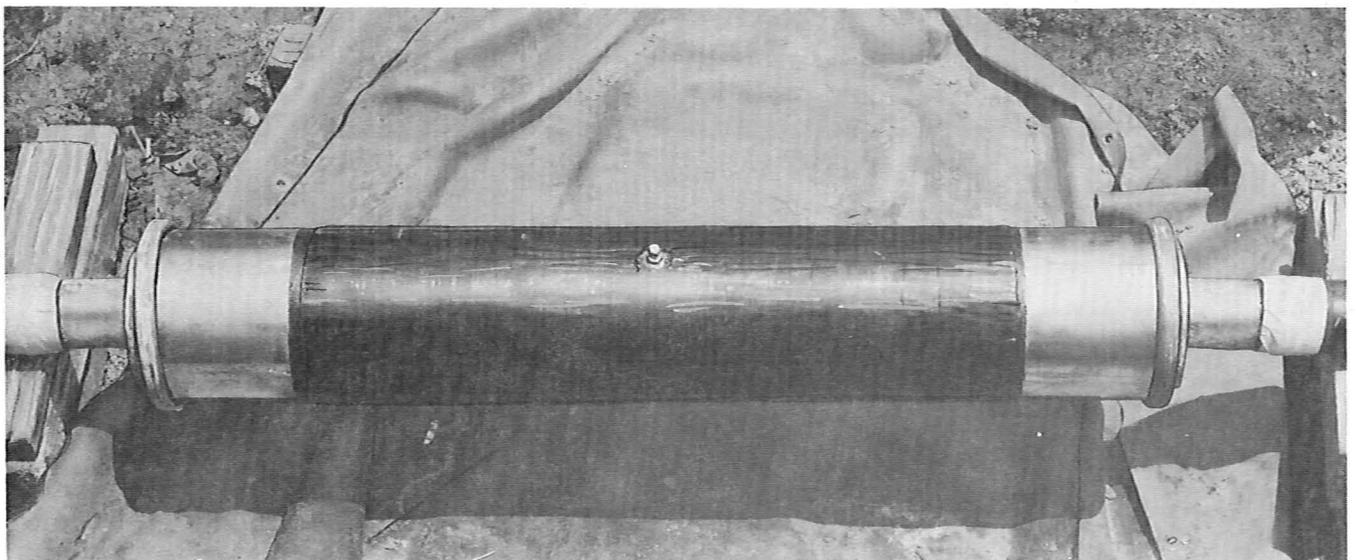

Fig. 9—Enclosed Splice
6.10 Position the other B Lead Ring over the B Lead Disc on the opposite side of the splice and slide the B Lead Ring onto the B Steel Sleeve. Fig. 9 illustrates the B Steel Sleeve enclosing the splice.